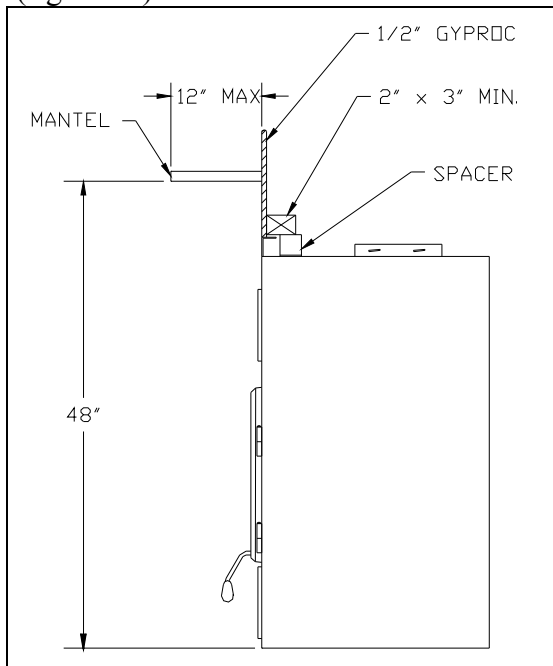

Figure 12
1. Combustible wall (such as drywall) must be installed flush with the fireplace. It may not project in front of and on the fireplace (i.e. the steel façade of the fireplace) (fig. 12)
The mantel must be installed at least 48" (1016 mm) above the base of the fireplace (figure 12).